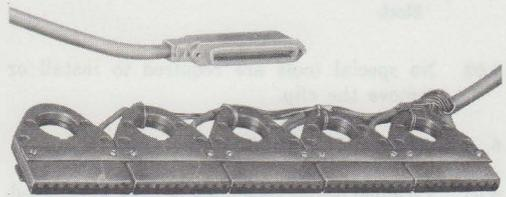

Fig. 21—15-Type Terminal Block
**6.05** ♦The 15AA-25 and 15AB-25 (Fig. 21) terminal blocks are used to test system and station operations. These blocks are made up of cables which are terminated on one end with a 50-pin connector which will plug into a key telephone set cord. The other end is terminated on five 961A- or B-type connectors which can be plugged directly onto a 66-type block.